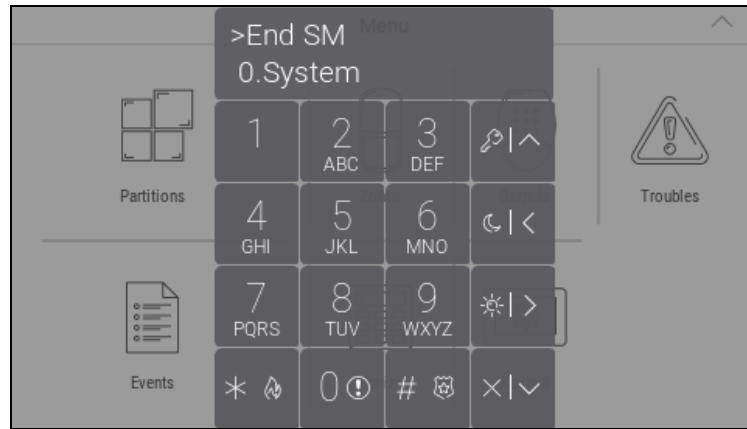

Fig. 11. Terminal displaying the service menu.
7. Tap . The service menu will be displayed (Fig. 11).